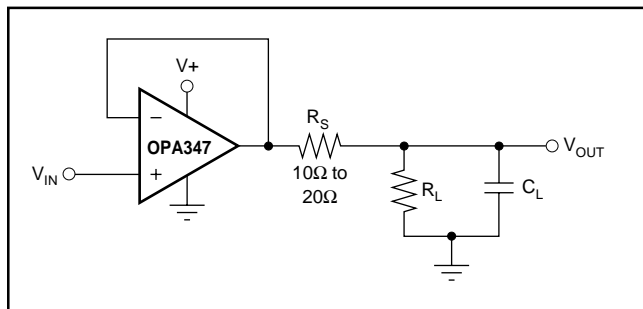

FIGURE 6. Series Resistor in Unity-Gain Buffer Configuration Improves Capacitive Load Drive.
The OPA347 in a unity-gain configuration can directly drive up to 250pF pure capacitive load. Increasing the gain enhances the amplifier's ability to drive greater capacitive loads (see the characteristic curve Small-Signal Overshoot vs Capacitive Load). In unity-gain configurations, capacitive load drive can be improved by inserting a small (10 Ω to 20 Ω) resistor, R_S , in series with the output, as shown in Figure 6. This significantly reduces ringing while maintaining Direct Current (DC) performance for purely capacitive loads. However, if there is a resistive load in parallel with the capacitive load, a voltage divider is created, introducing a DC error at the output and slightly reducing the output swing. The error introduced is proportional to the ratio R_S/R_L , and is generally negligible.